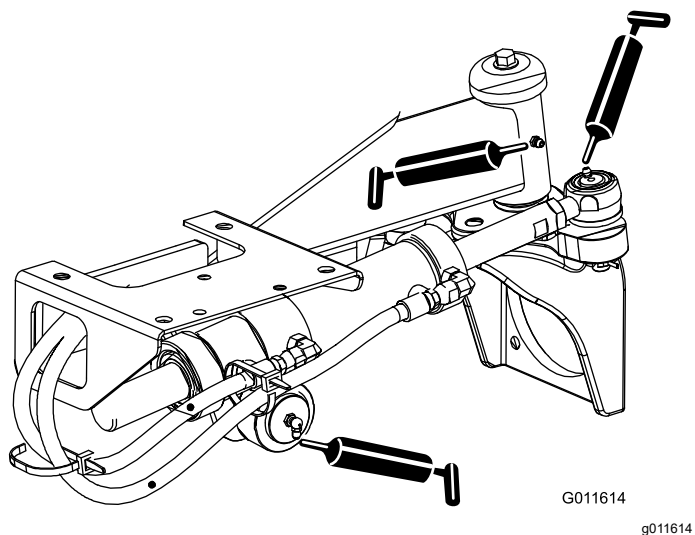

Figure 70
- Steering-cylinder ball joints (2) and rear axle (1)—Figure 70